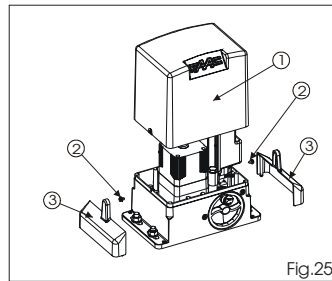

Fig.25
Return the board support to its original position. Fit the cover (Fig. 25 ref. 1), tighten the two side screws provided (Fig. 25 ref.2) and snap-fit the side panels (Fig. 25 ref.3).